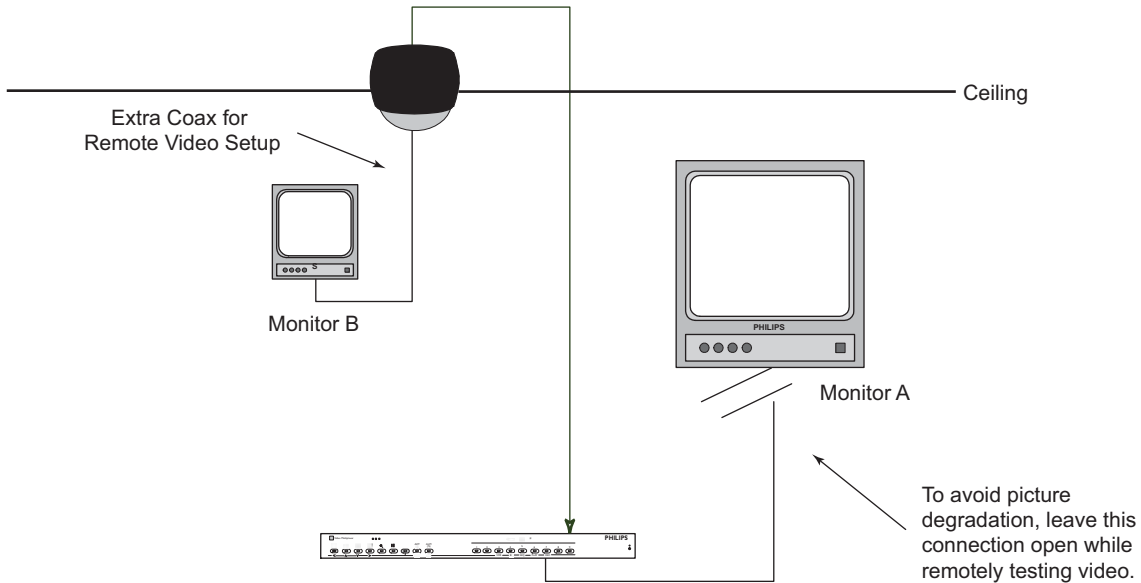

**Figure 5 Camera Position Adjustments**
- I. The camera can manually pan, tilt, or rotate 360 degrees. See **Figure 5** for a diagram of these adjustments.